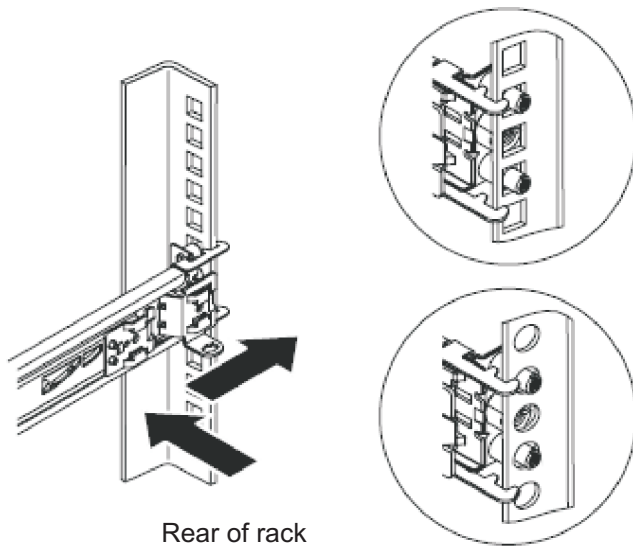

Figure 22. Installing the rear end of the slide rails
3. Install the rear end of the slide rails, as shown in Figure 22.